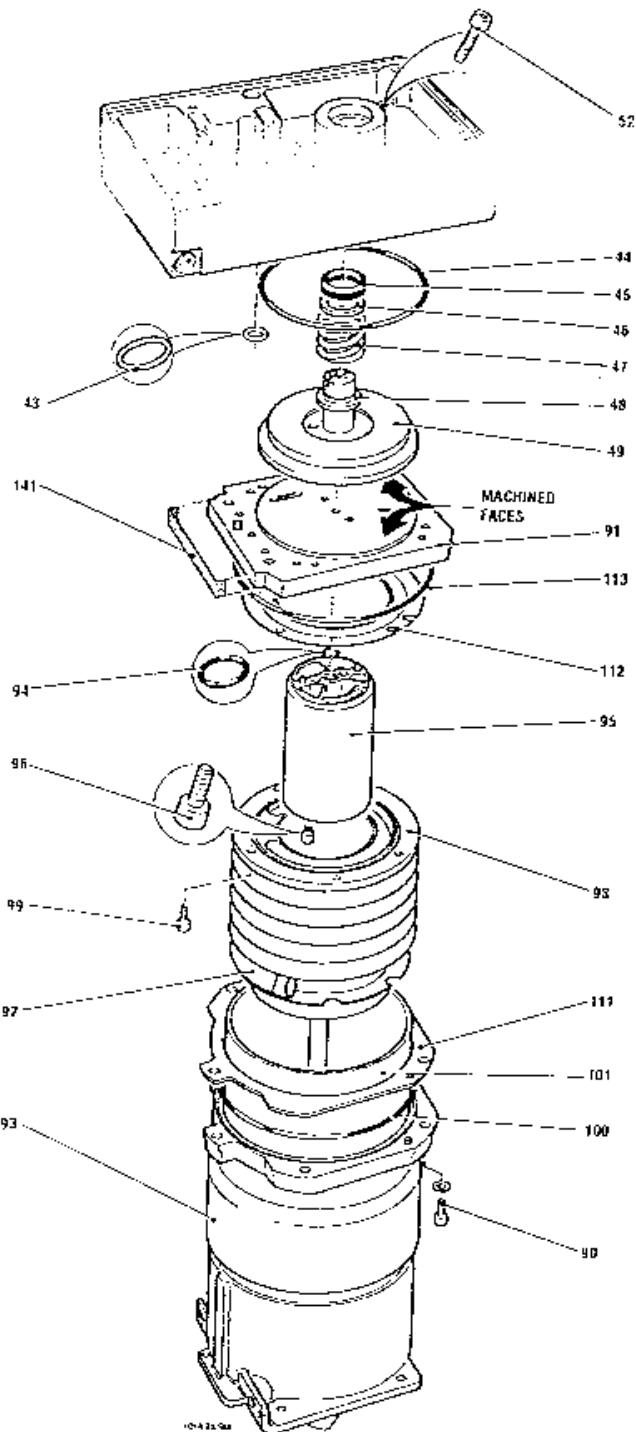
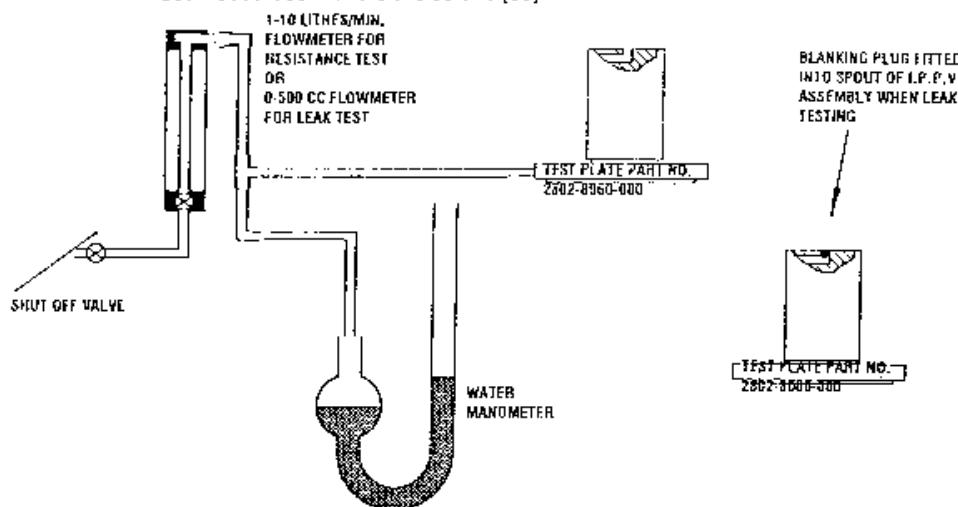

Fig. 3.11 Sump And Wick Disassembly
Fig. 3.16 Resistance And Leak Tests Of I.P.P.V. Assembly
### 3.5.2 Sump, Sump Cover And Interlock Block (Fig. 3.11)
2. Referring to Fig 3.11, remove the five screws (90) and washers and lift off the sump assembly from the sump cover.
3. Remove and dispose of the 'O' ring (100)
4. Carefully slide the sump sleeve (111) from the outer wick (101) and remove and dispose of the 'O' ring (113)
5. Remove and dispose of the outer wick (101) and the spiral wick (92)
6. Remove the five screws (99) and remove the spinning assembly (98) and the copper gasket (112).
7. Remove the two screws (96) and remove the plastic I.P.P.V. assembly (95). Remove and dispose of the 'O' ring (94).
8. Turn the vaporizer upright, remove the four screws (32) which secure the interlock block to the sump cover.
9. Lift off the interlock block, taking care that the rotary valve remains in position on the sump cover. Remove and dispose of the short self-adhesive strip (141).
10. Carefully remove spring (47) and the two washers (46) and (48) from the rotary valve (49). Dispose of the washers (46) and (48)
11. Carefully lift off the rotary valve (49) and place it on a clean protective surface.
*Note: When fitting the top cover plate (12), ensure that it is of the latest specification with the 15 deg. angle at the stop position as shown in Fig. 3.16*
1. Grease the new springs (51) with fluorinated grease and fit the springs (51) and washers (84) onto each interlock rod (81) and (82).
2. Fit both interlock rods through the interlock block (42) and into the new interlock bush (83) and secure with the retaining screws (80). Torque tighten the retaining screws to 2 Nm. Ensure that the short interlock rod (82) is fitted to the left of the block, as viewed from the front.
3. Fit a new seal (75) into the interlock block, fit a new 'O' ring (73) to a new filter (74), and then fit the filter (74) in position in the interlock block.
4. Invert the interlock block assembly and fit two new seals (43) and one new large seal (44) to the interlock block.
5. Lightly smear a new quad ring seal (45) with fluorinated grease and fit it to the bore of the interlock block, using tool Part No. 2802-8061-000.
6. Ensure that the mating faces of the rotary valve (49) and the sump cover are clean. Place the rotary valve in position on the sump cover with the hole facing the rear of the vaporizer at the 12 o'clock position. Fit a new Fluor washer (48) on the valve stem followed by compression spring (47) and new thrust washer (46), ensuring that the small outside diameter of the thrust washer is uppermost.
7. Using a mandrel tool Part No. 2802-8013-000, fit the interlock block over the rotary valve. Torque tighten the four interlock block securing screws (52) to the sump cover diametrically opposite in turn to 2.6 Nm. Remove the mandrel. Torque the four securing screws (52) a second time to 2.6 Nm a second time.
8. Insert the two screws (53) into the interlock block so that they hang loosely and can be used later to secure the transfer manifold.
9. Fit one new spring (65) and a seal housing (66) onto each spindle (86). Apply fluorinated grease to the new 'O' rings (69) and fit one onto each spindle of the platform assembly. Ensure that the 'O' rings are fitted into the seal housings and each housing is fully seated.
10. Place a new interlock collar spring (54) into position ensuring that one end is fitted into the hole in the interlock block.
1. Set up the test equipment with a 1 to 10 litres/minute flowmeter as illustrated in Fig. 3.16 ensuring that the manometer reads zero with an air flow of 6 litres/minute prior to fitting the I.P.P.V. assembly. Fit a new seal (item 94 on Fig. 3.11) to the I.P.P.V. assembly as shown on Fig. 3.11 and fit the assembly to the test plate Part No. 2802-8060-000 with the two screws {9G}
1. Place a blanking plug in the spout of the I.P.P.V. assembly and connect a 0.500 cc/minute flowmeter Part No. 2802-8056-000 in place of the 10 litres/minute flowmeter, as shown in Fig. 3.16